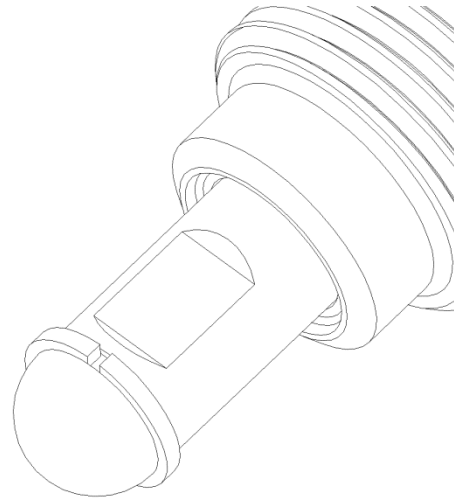

Figure 4
9. Depress the sleeve to expose the flats on the plunger. Refer to Figure 4. Put an 8mm (5/16”) spanner on the flats of the plunger. Using the spanner and allen key, tighten the grub screw to secure the sleeve in place.